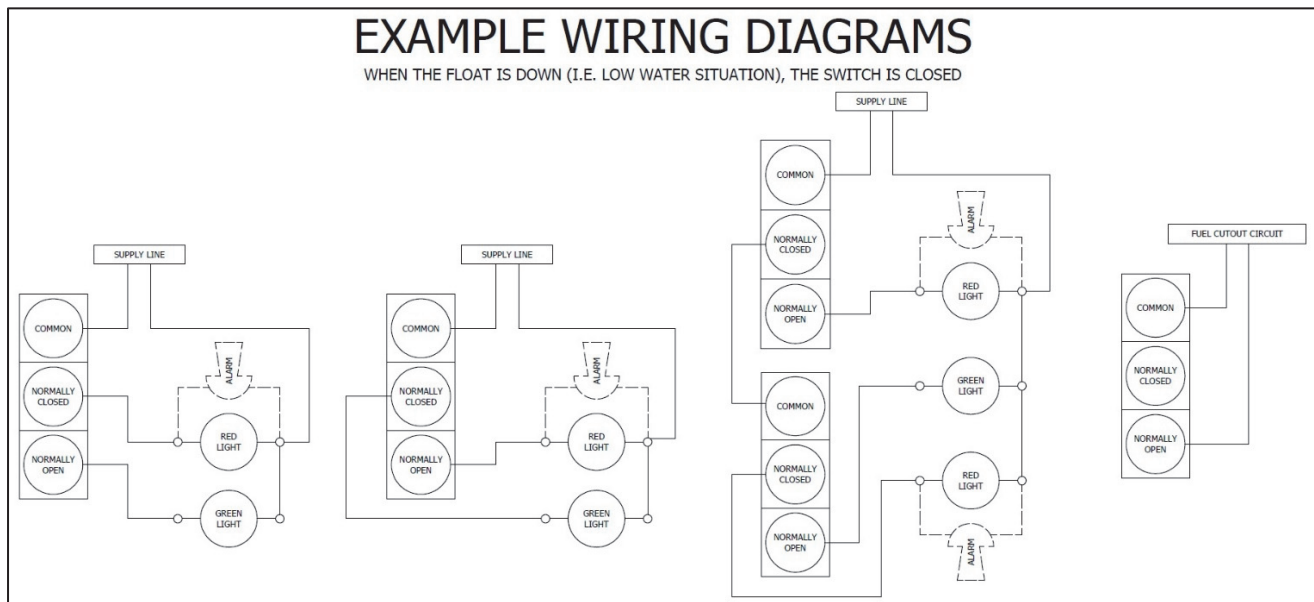

Figure 3
**NOTE: See Figure 3 for example wiring diagrams for connecting the low water cutout, alarms (such as lights or an audible signal), etc, are illustrated below.: